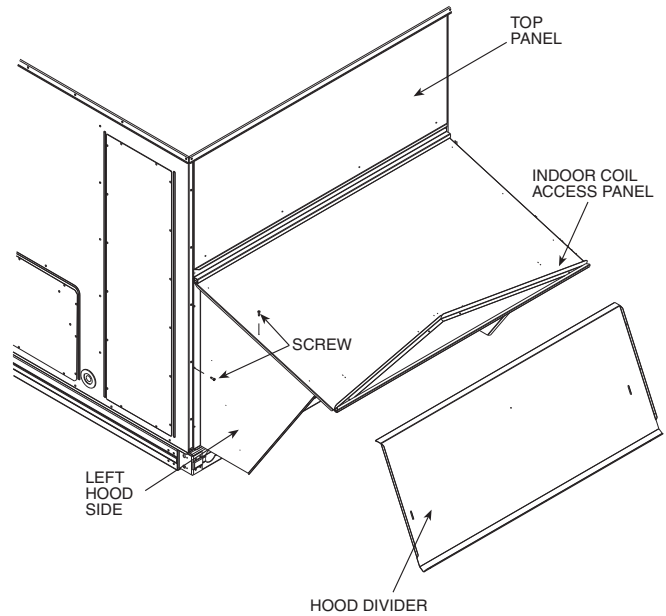

Fig. 17 — Economizer Hood Construction
2. Swing out indoor coil access panel and insert the hood sides under the panel (hood top). Be careful not to lift the panel too far as it might fall out. Use the screws provided to attach the hood sides to the hood top. Use screws provided to attach the hood sides to the unit. See Fig. 17.
4. Insert the hood divider between the hood sides. See Fig. 17 and 18. Secure hood divider with 3 screws on each hood side. The hood divider is also used as the bottom filter rack for the aluminum filter.
7. Install the two rain deflectors on the edge of the hood top as shown in Fig. 17.